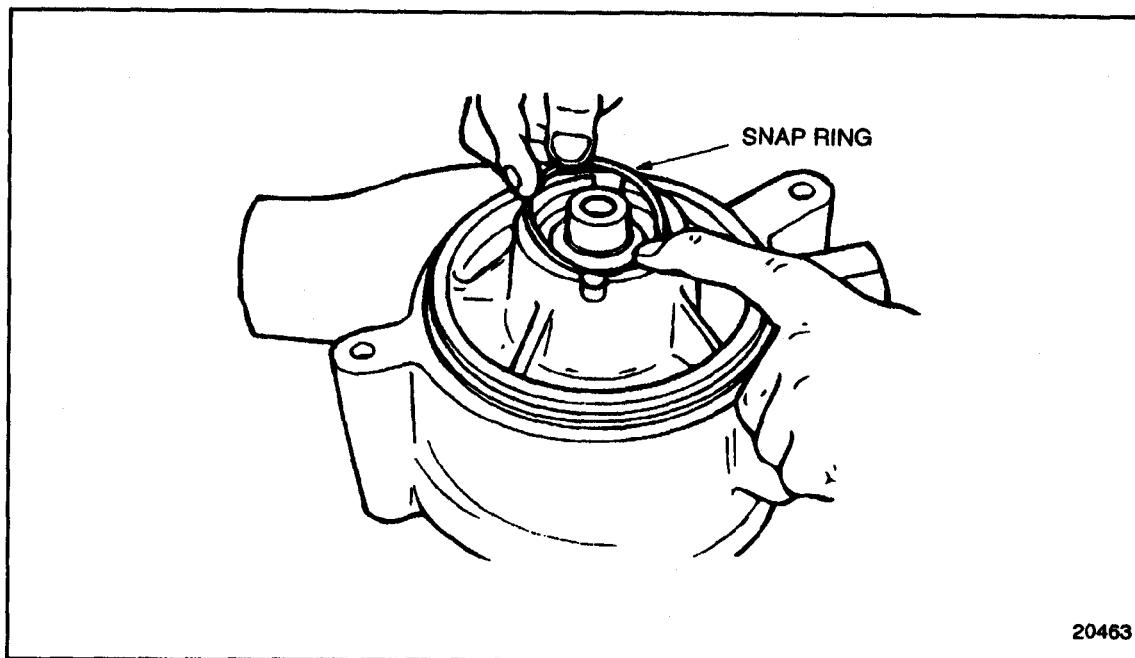

Figure 4-13 Snap Ring Removal (GCM)
5. Remove the snap ring from the water pump housing. See Figure 4-13.